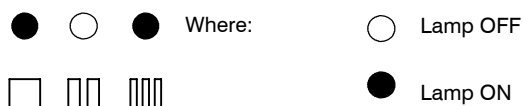

Fig. 47
- 12 Press the reset button C repeatedly (4 times) until the lamps E give the indication as in Fig. 47 (ignition pressure adjustment mode).